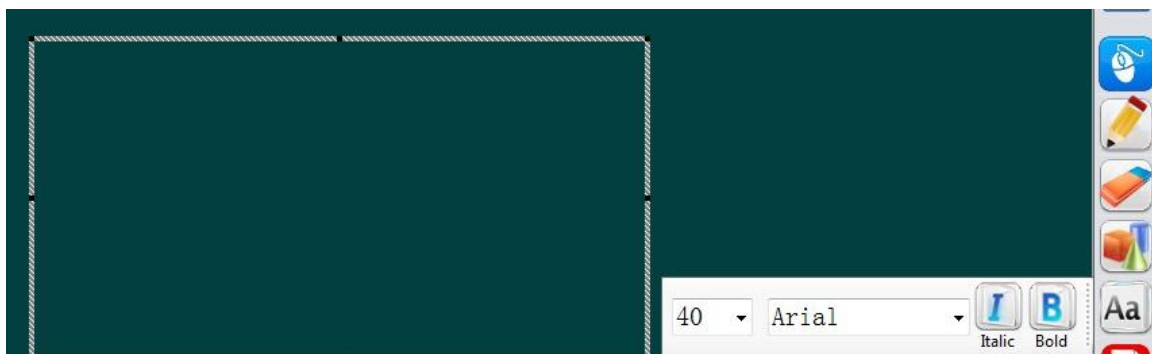

Fig 3.2.5
7) Hand writing recognition, see menu as fig 3.2.5